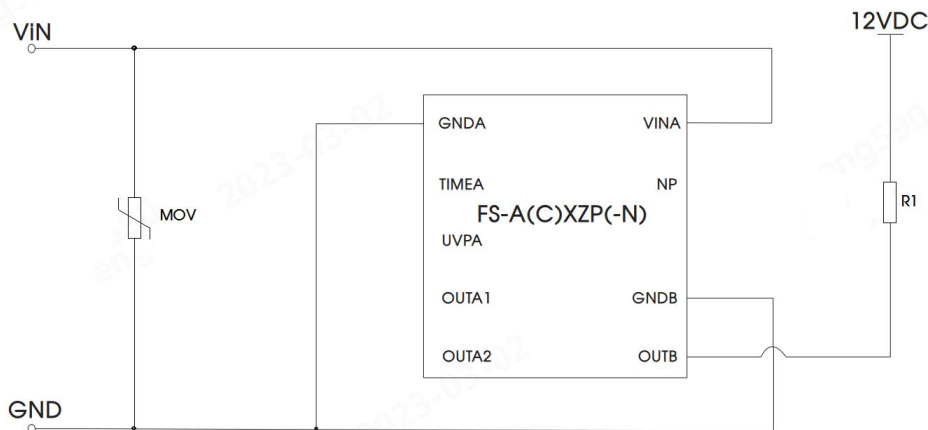

Fig. 1
4)The above conditions are measured under the conditions in Fig 1;
Table 1: Fig. 1 Recommended device parameters table
As shown in Fig. 1, UVPA pin drives OUTA2 turn-off voltage V1 through external resistor R1 to GND setting module, and this voltage is the undervoltage point of VINA pin. When the voltage is lower than turn-off voltage V1, OUTA2 pin voltage drops below 0.7V.
In the connection method shown in Fig 1, the TIMEA pin sets the delay time T of 5V output voltage of the module from startup to OUTA2 through the external capacitor C1 to GNDA.